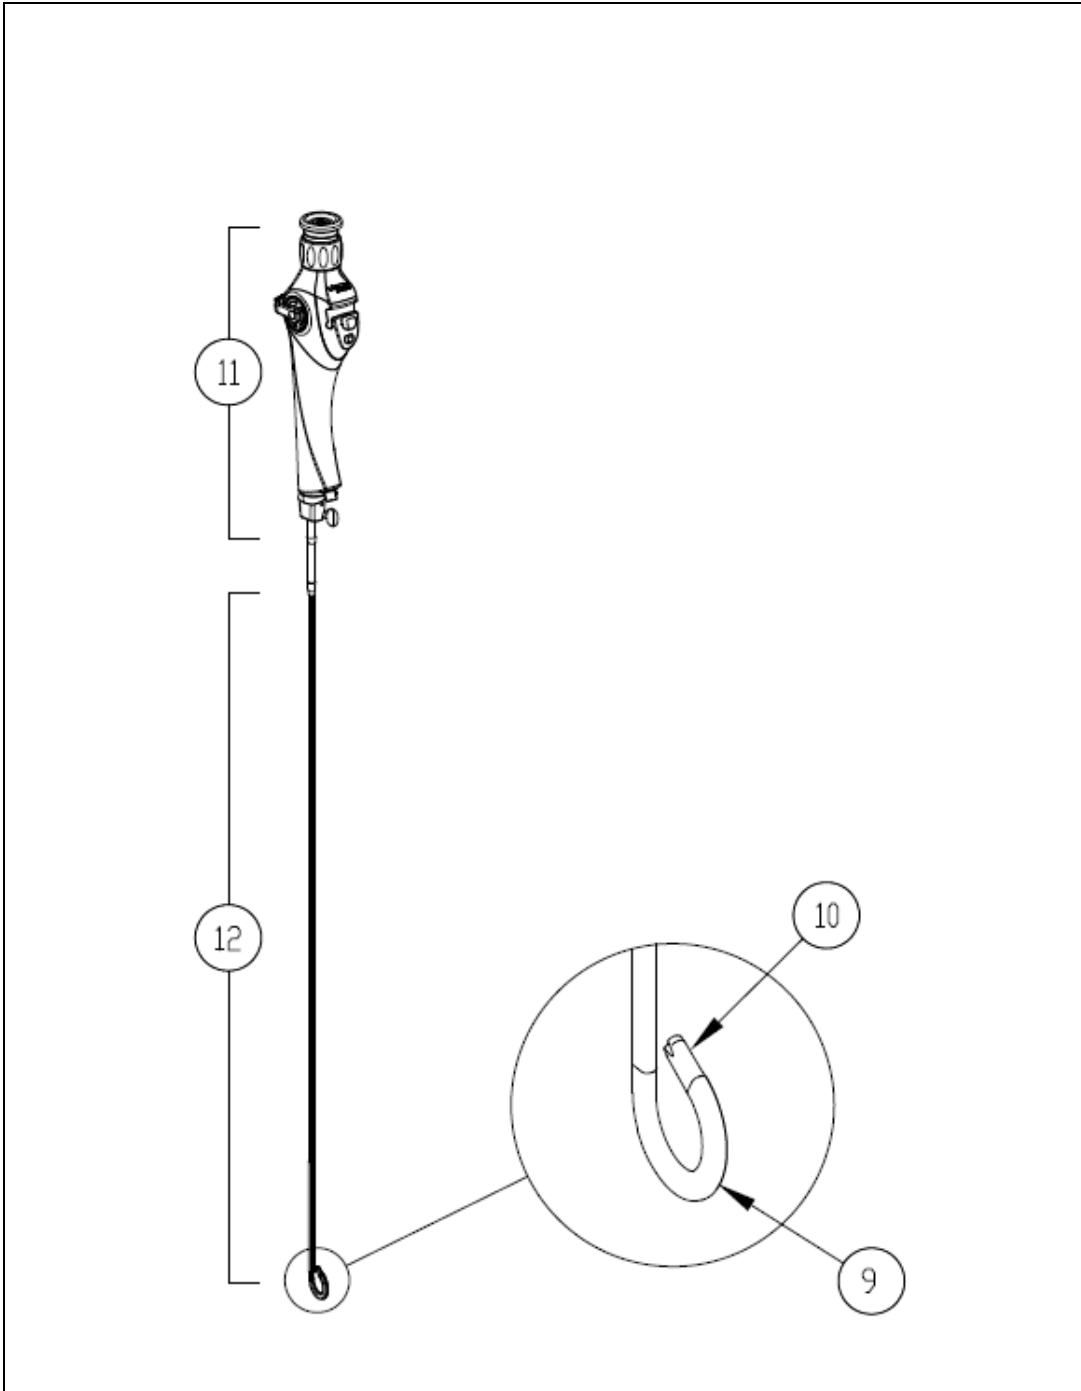

Figure 3-1: CST-4000/4000i Flexible Cystoscope/Hysteroscope
- The **CST-4000/4000*i*** Cystoscope/Hysteroscope, which is shown in Figures 3-1 and 3-2 on pages 13 and 14. The endoscope's Insertion Tube has no working channel; it contains the fiberoptic image and illumination bundles only.